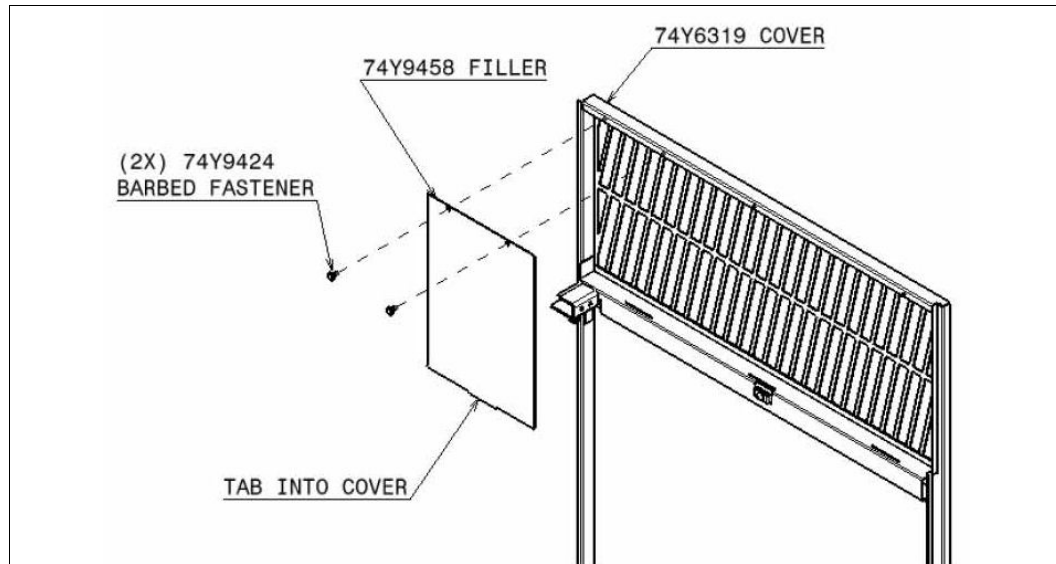

Figure 1-49 Partial filler installation on front right (latch side) cover when an I/O enclosure is installed
1. Install the partial filler panels (part number 74Y9458) on the front right (latch side) cover (part number 74Y6319). See Figure 1-49.